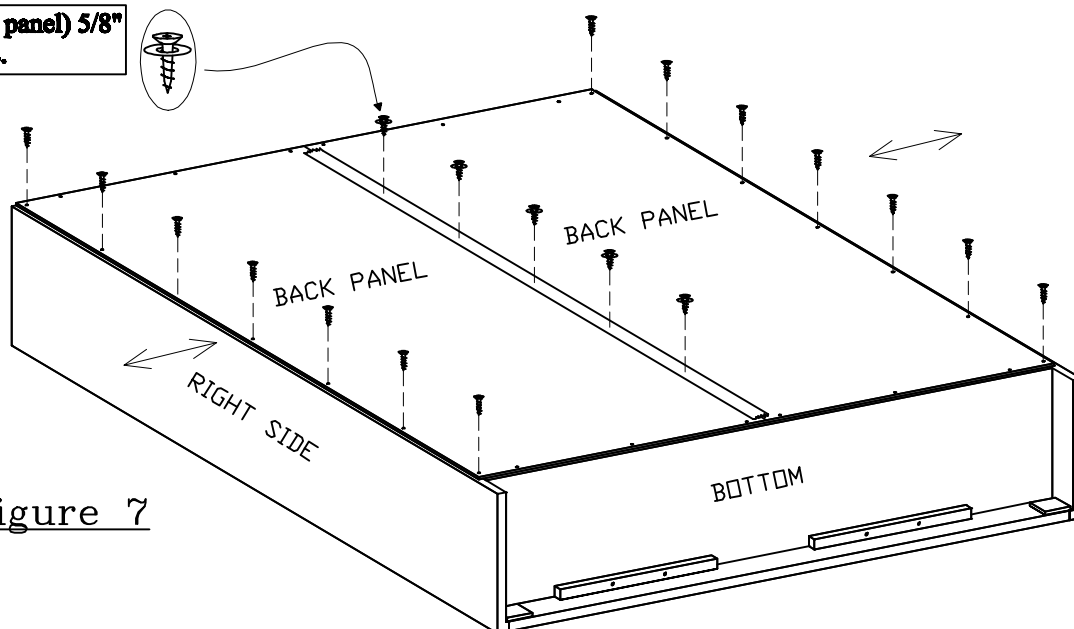

Figure 7
Step 26. The edges of the **SIDE PANELS** must be parallel with the edges of the **BACK PANEL**. If necessary, slightly push the **SIDE PANELS** in or out, in order to ensure an equal amount of space along the edges. See Figure 7.
Step 27. Insert and screw 7 screws along each side edge of the **BACK PANEL**. See Figure 7.
Step 28. Insert and screw 5 screws with washers along the tape. See Figure 7.